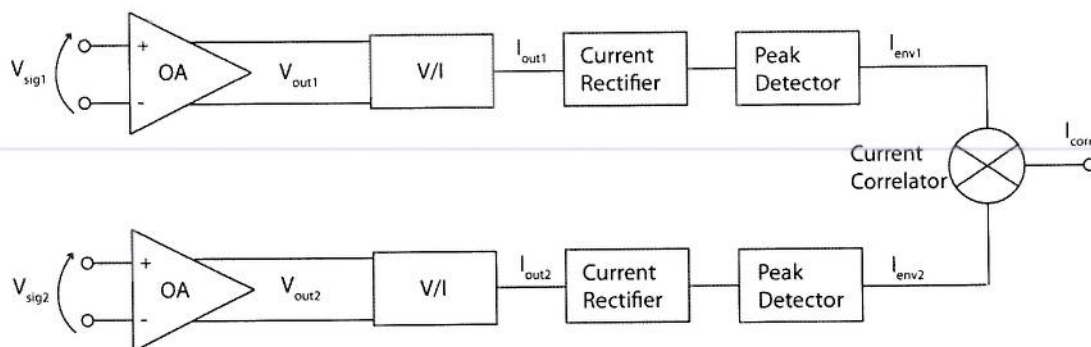

Figure 6.1
d) The system in Figure 6.1 uses a V/I converter with improved linearity over a conventional differential pair. Sketch suitable schematics for the V/I converter and the current correlator used in this system.